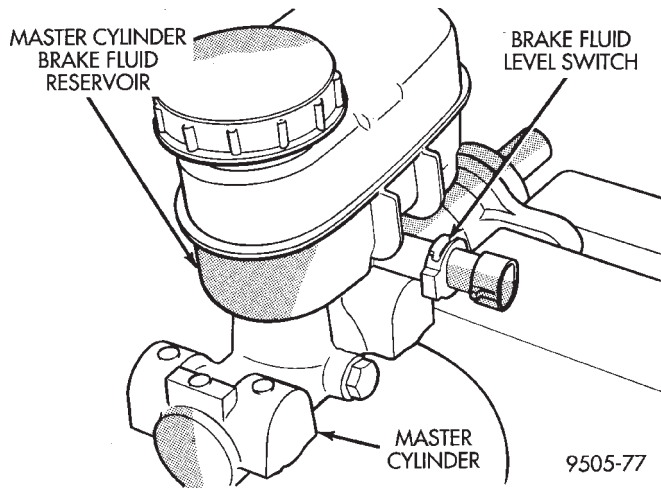

Fig. 52 Removing Fluid Level Switch From Reservoir
- (3) While compressing retaining tabs, grasp opposite end of brake fluid level sensor and pull it out of master cylinder fluid reservoir (Fig. 52).